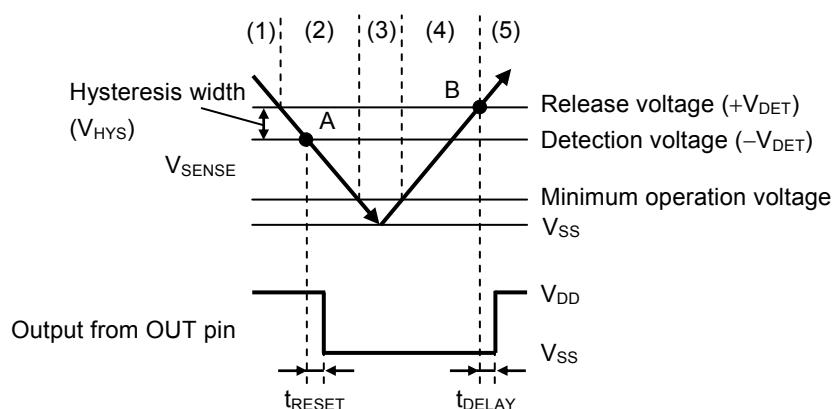

Figure 28 Timing Chart of S-1011 Series E / N Type
The hysteresis width is the voltage difference between the detection voltage and the release voltage (the voltage at point B – the voltage at point A = V_{HYS} in **Figure 24** and **Figure 28**). Setting the hysteresis width between the detection voltage and the release voltage, prevents malfunction caused by noise on the input voltage.
When V_{SENSE} decreases to $-V_{DET}$ or lower (point A in **Figure 28**), the Nch transistor is turned on. And then V_{SS} ("L") is output from the OUT pin after the elapse of the detection delay time (t_{RESET}).
(3) Even if V_{SENSE} further decreases to the IC's minimum operation voltage or lower, the output from the OUT pin is stable when V_{DD} is minimum operation voltage or higher.
(4) Even if V_{SENSE} exceeds $-V_{DET}$, V_{SS} is output when V_{SENSE} is lower than $+V_{DET}$.
(5) When V_{SENSE} increases to $+V_{DET}$ or higher (point B in **Figure 28**), the Nch transistor is turned off. And then V_{DD} is output from the OUT pin after the elapse of the release delay time (t_{DELAY}) when the output is pulled up.